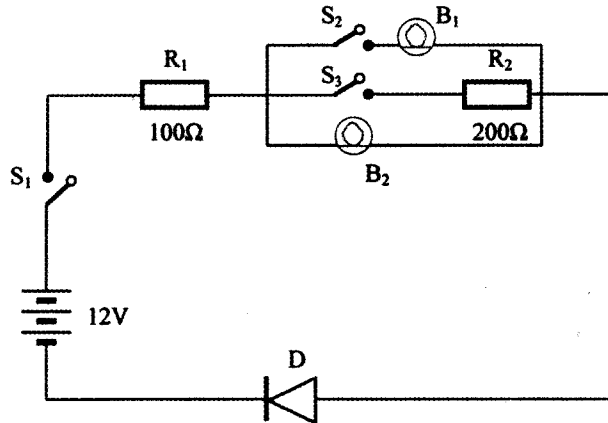

Figure 3
- a) Connect the components provided as shown in the circuit in Figure 3. Let the examiner check your work.